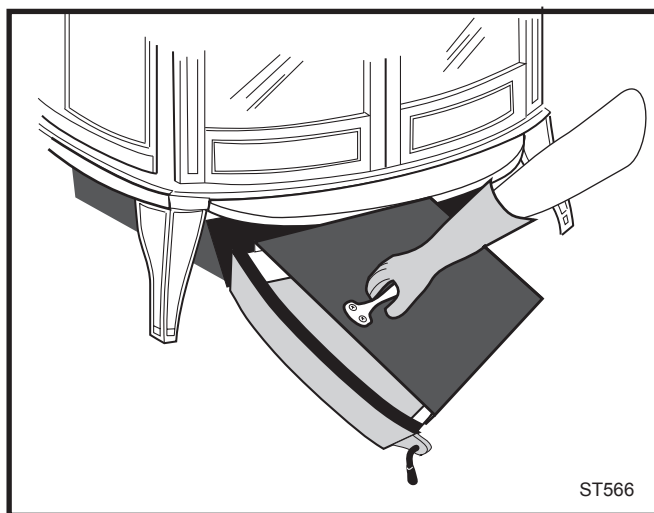

Fig. 43 Be sure the cover is securely attached before removing the ash pan.
- Slide the cover onto the pan, making sure it is securely closed. (Fig. 43)